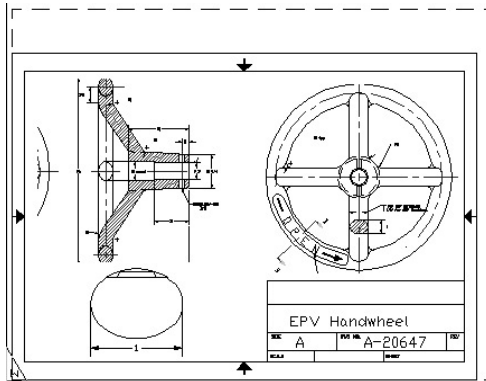

Figure 17-13: The completed drawing layout is now ready for plotting.
17. Double-click inside each viewport in turn to switch to model space and pan until you see the view shown in Figure 17-13. It doesn't have to match exactly. If you want, you can resize the viewports to fit the models better.
21. Choose Draw ⇄ Text ⇄ Single Line Text. Complete the text in the title block at the default height, as shown in Figure 17-13.